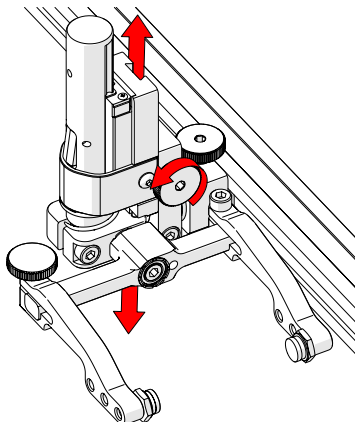

Fig. 33 - Vertical adjustment
2. The vertical adjustment knob allows the vertical probe holder height adjustment (Fig. 33).